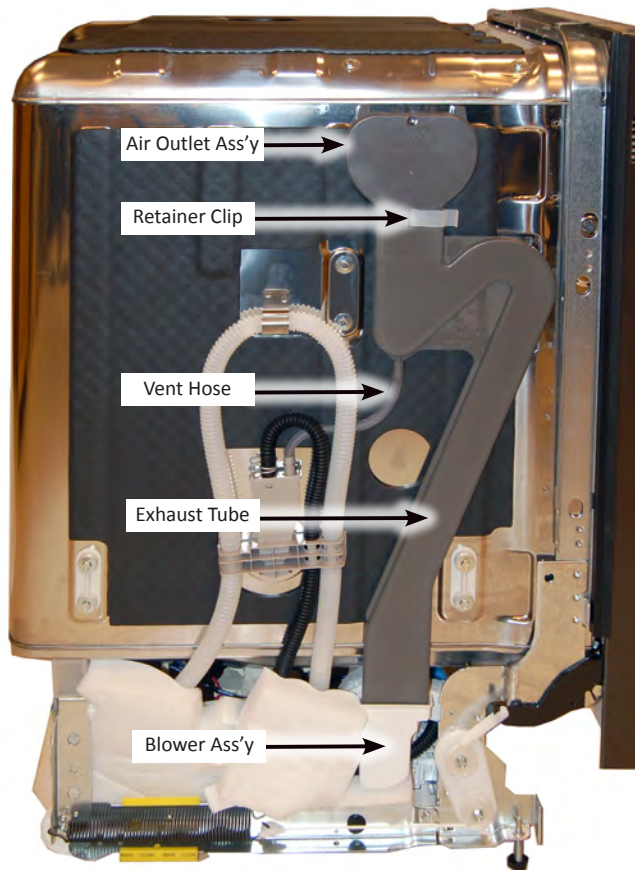

Figure 2
2. Access Power Dry™ components on left side of tub (see Figure 2). To disassemble Power Dry™ components; unscrew air assembly nut from inside tub, disconnect vent hose, then slide exhaust tube and air outlet assembly up and out of blower assembly to remove.